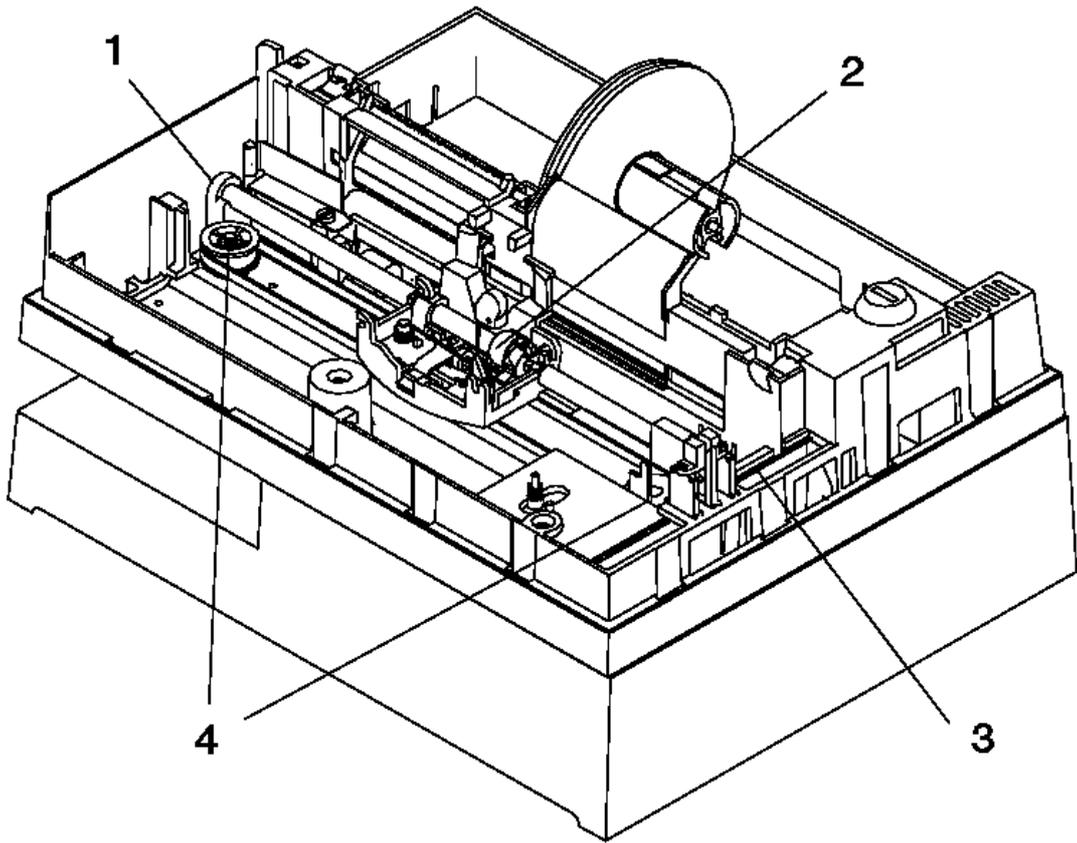

Figure 5-23. Print Head Carriage and Shaft
4. Remove the belt from the drive motor pulleys (4) and move the carriage to the left. Make sure that the belt spring does not fall off and get lost. See Figure 5-23 in topic 5.5.18.2.
5. Release the holding tab (3).